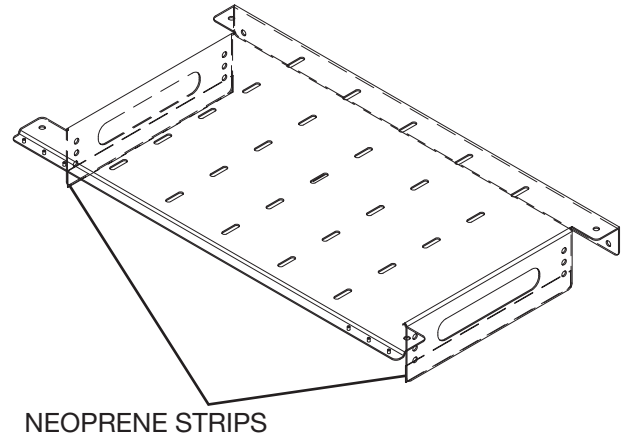

Figure 7.3a - Top Cover
- Top Cover: inside bottom of flanges, see Figure 7.3a.